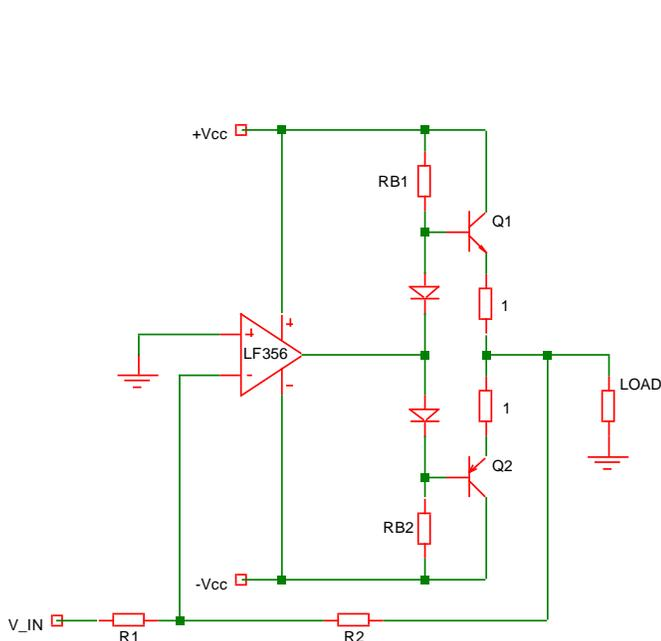

Fig. 7: Voltage amplifier using an LF356 op amp.
- 7) Design an inverting voltage amplifier to drive up to 200 mW (or slightly higher) into a 50 ohm load. The input signal is a sine wave with a maximum amplitude of 1VPP. The input impedance must be  $R_{IN} \geq 10$  kohm. The suggested schematic is shown in Fig. 7, where an LF356 op amp is used.